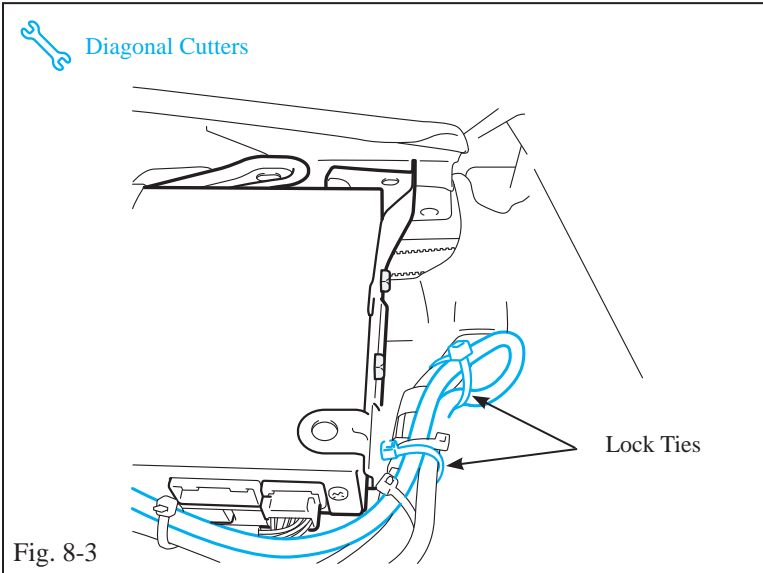

Fig. 8-3
- !** (c) Secure the USB harness. (Fig. 8-3)
- (1) Reinstall the OE AVC LAN harness clip to the XM bracket.
- (2) Gather the extra slack in the USB harness, and pull it towards the XM ECU.
- (3) Loop the harness and secure it with two (2) lock ties to the AVC LAN harness as shown.
- (4) Trim the lock ties to length using diagonal cutters.